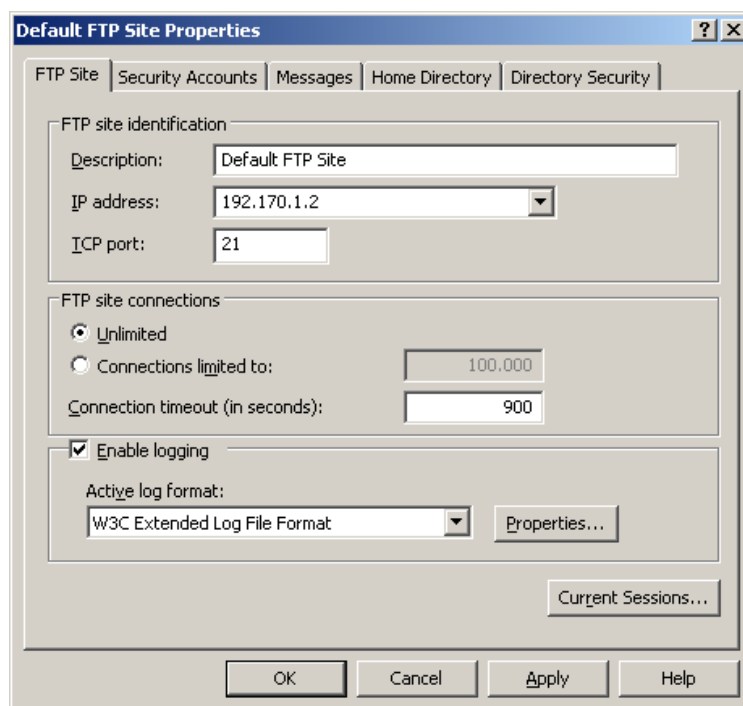

Figure 14 “FTP Site” Tab (Example)
- On the “FTP Site” tab, enter the “IP Address” and click to select “Unlimited” in the “FTP site connections” section, see Figure 14.